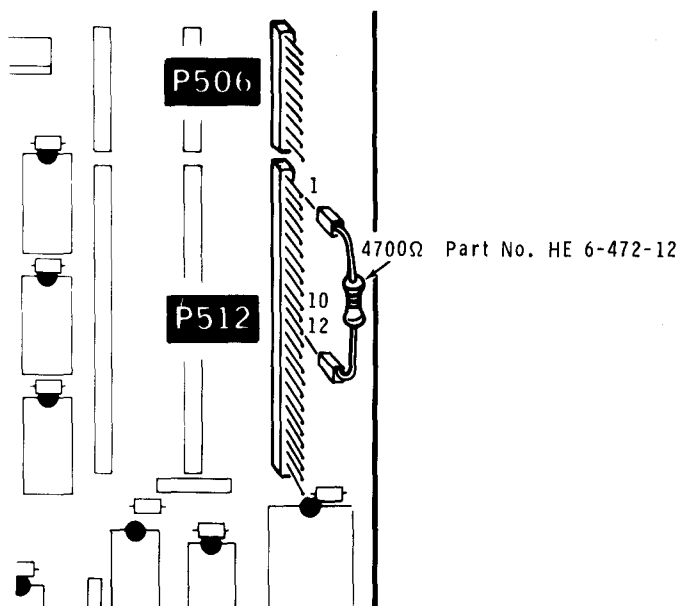

Figure 2-2
- Set switch SW501, section 4 (on the CPU logic circuit board) to 1. The Z-37 connected drives are now the primary drives and they are now numbered as shown in Figure 2-3 on Page 2-3. (NOTE: IF YOU REMOVE THE UNUSED H-88-1 FLOPPY DISK I/O CIRCUIT BOARD, YOU MUST CONNECT A 4700 OHM RESISTOR TO PLUG P512 BETWEEN PINS 1 AND 12. SEE FIGURE 2-2.)
To make the modification, use a 4700 Ω , 1/4-watt resistor (yellow-violet-red), HE 6-472-12; and slide a length of sleeving over the resistor. Solder the resistor between pins 1 and 12 of plug P2 on the foil side (not the component side) of the Z-89-47 circuit board as shown in Figure 2-2 on Page 2-2.